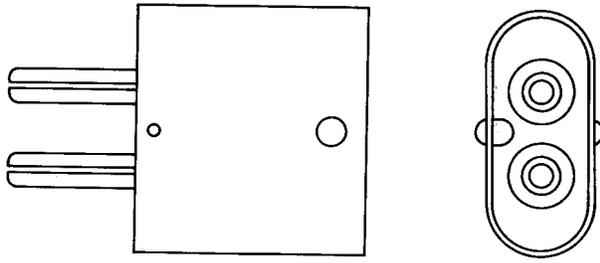

Fig. 7—186 Plug
2.09 **186:** The 186 plug (Fig. 7) consists of two separately insulated plugs encased in a nickel finished shell. The 186 plug is used with the 19C test set.